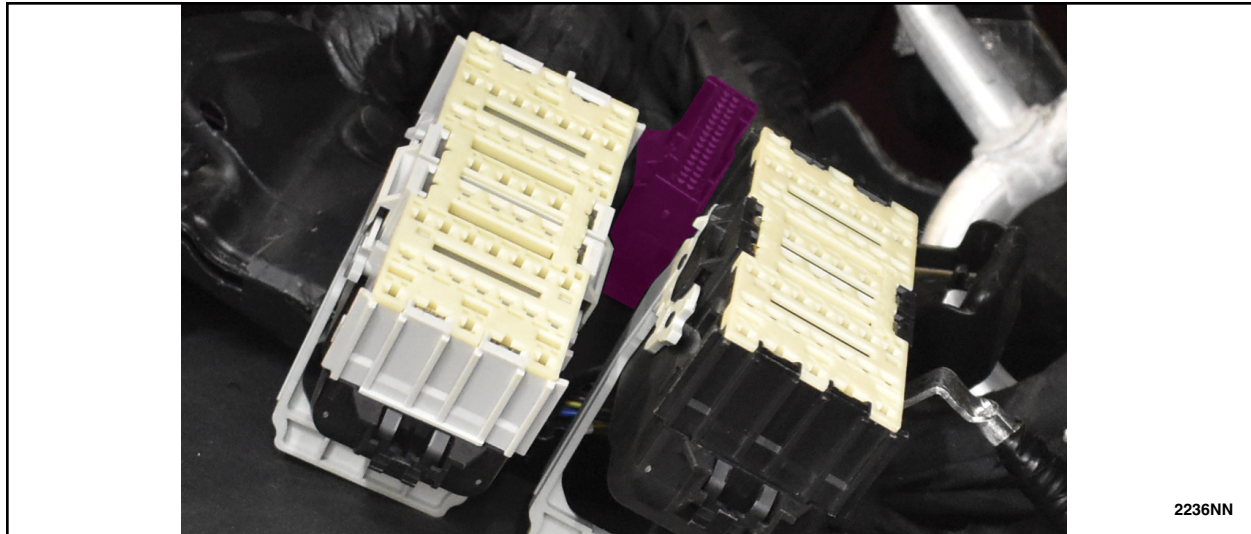

FIGURE 45
55. Identify connector C1035C. See Figure 45. If needed wire covering can be pulled back.